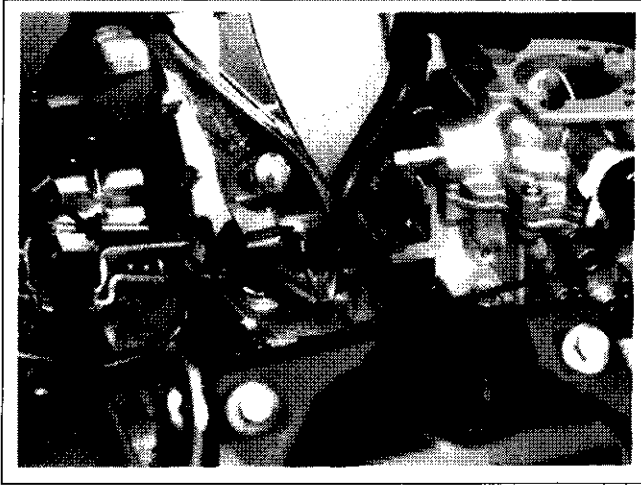

Figure 9-10. Removing Tube from Breather Cover.
6. Remove the rubber breather tube from the breather cover. See Figure 9-10.